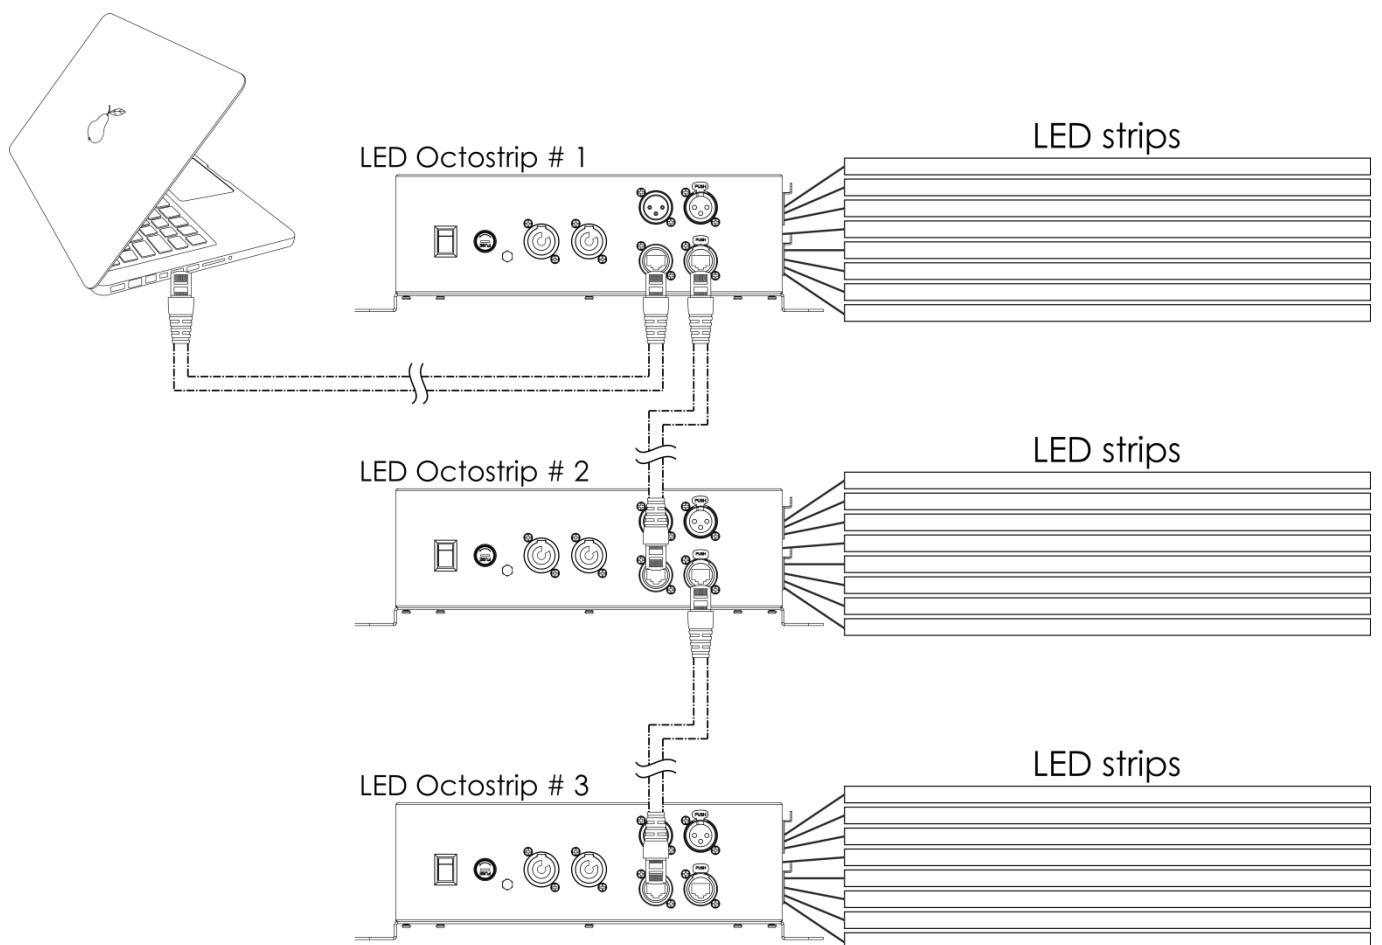

Fig. 06
- 04) Link the units as shown in fig. 06. Connect the first Octostrip's RJ45 "out" socket with the second unit's "in" socket, using a CAT-5/CAT-6 signal cable. Repeat this process to link the second, third, and fourth units.